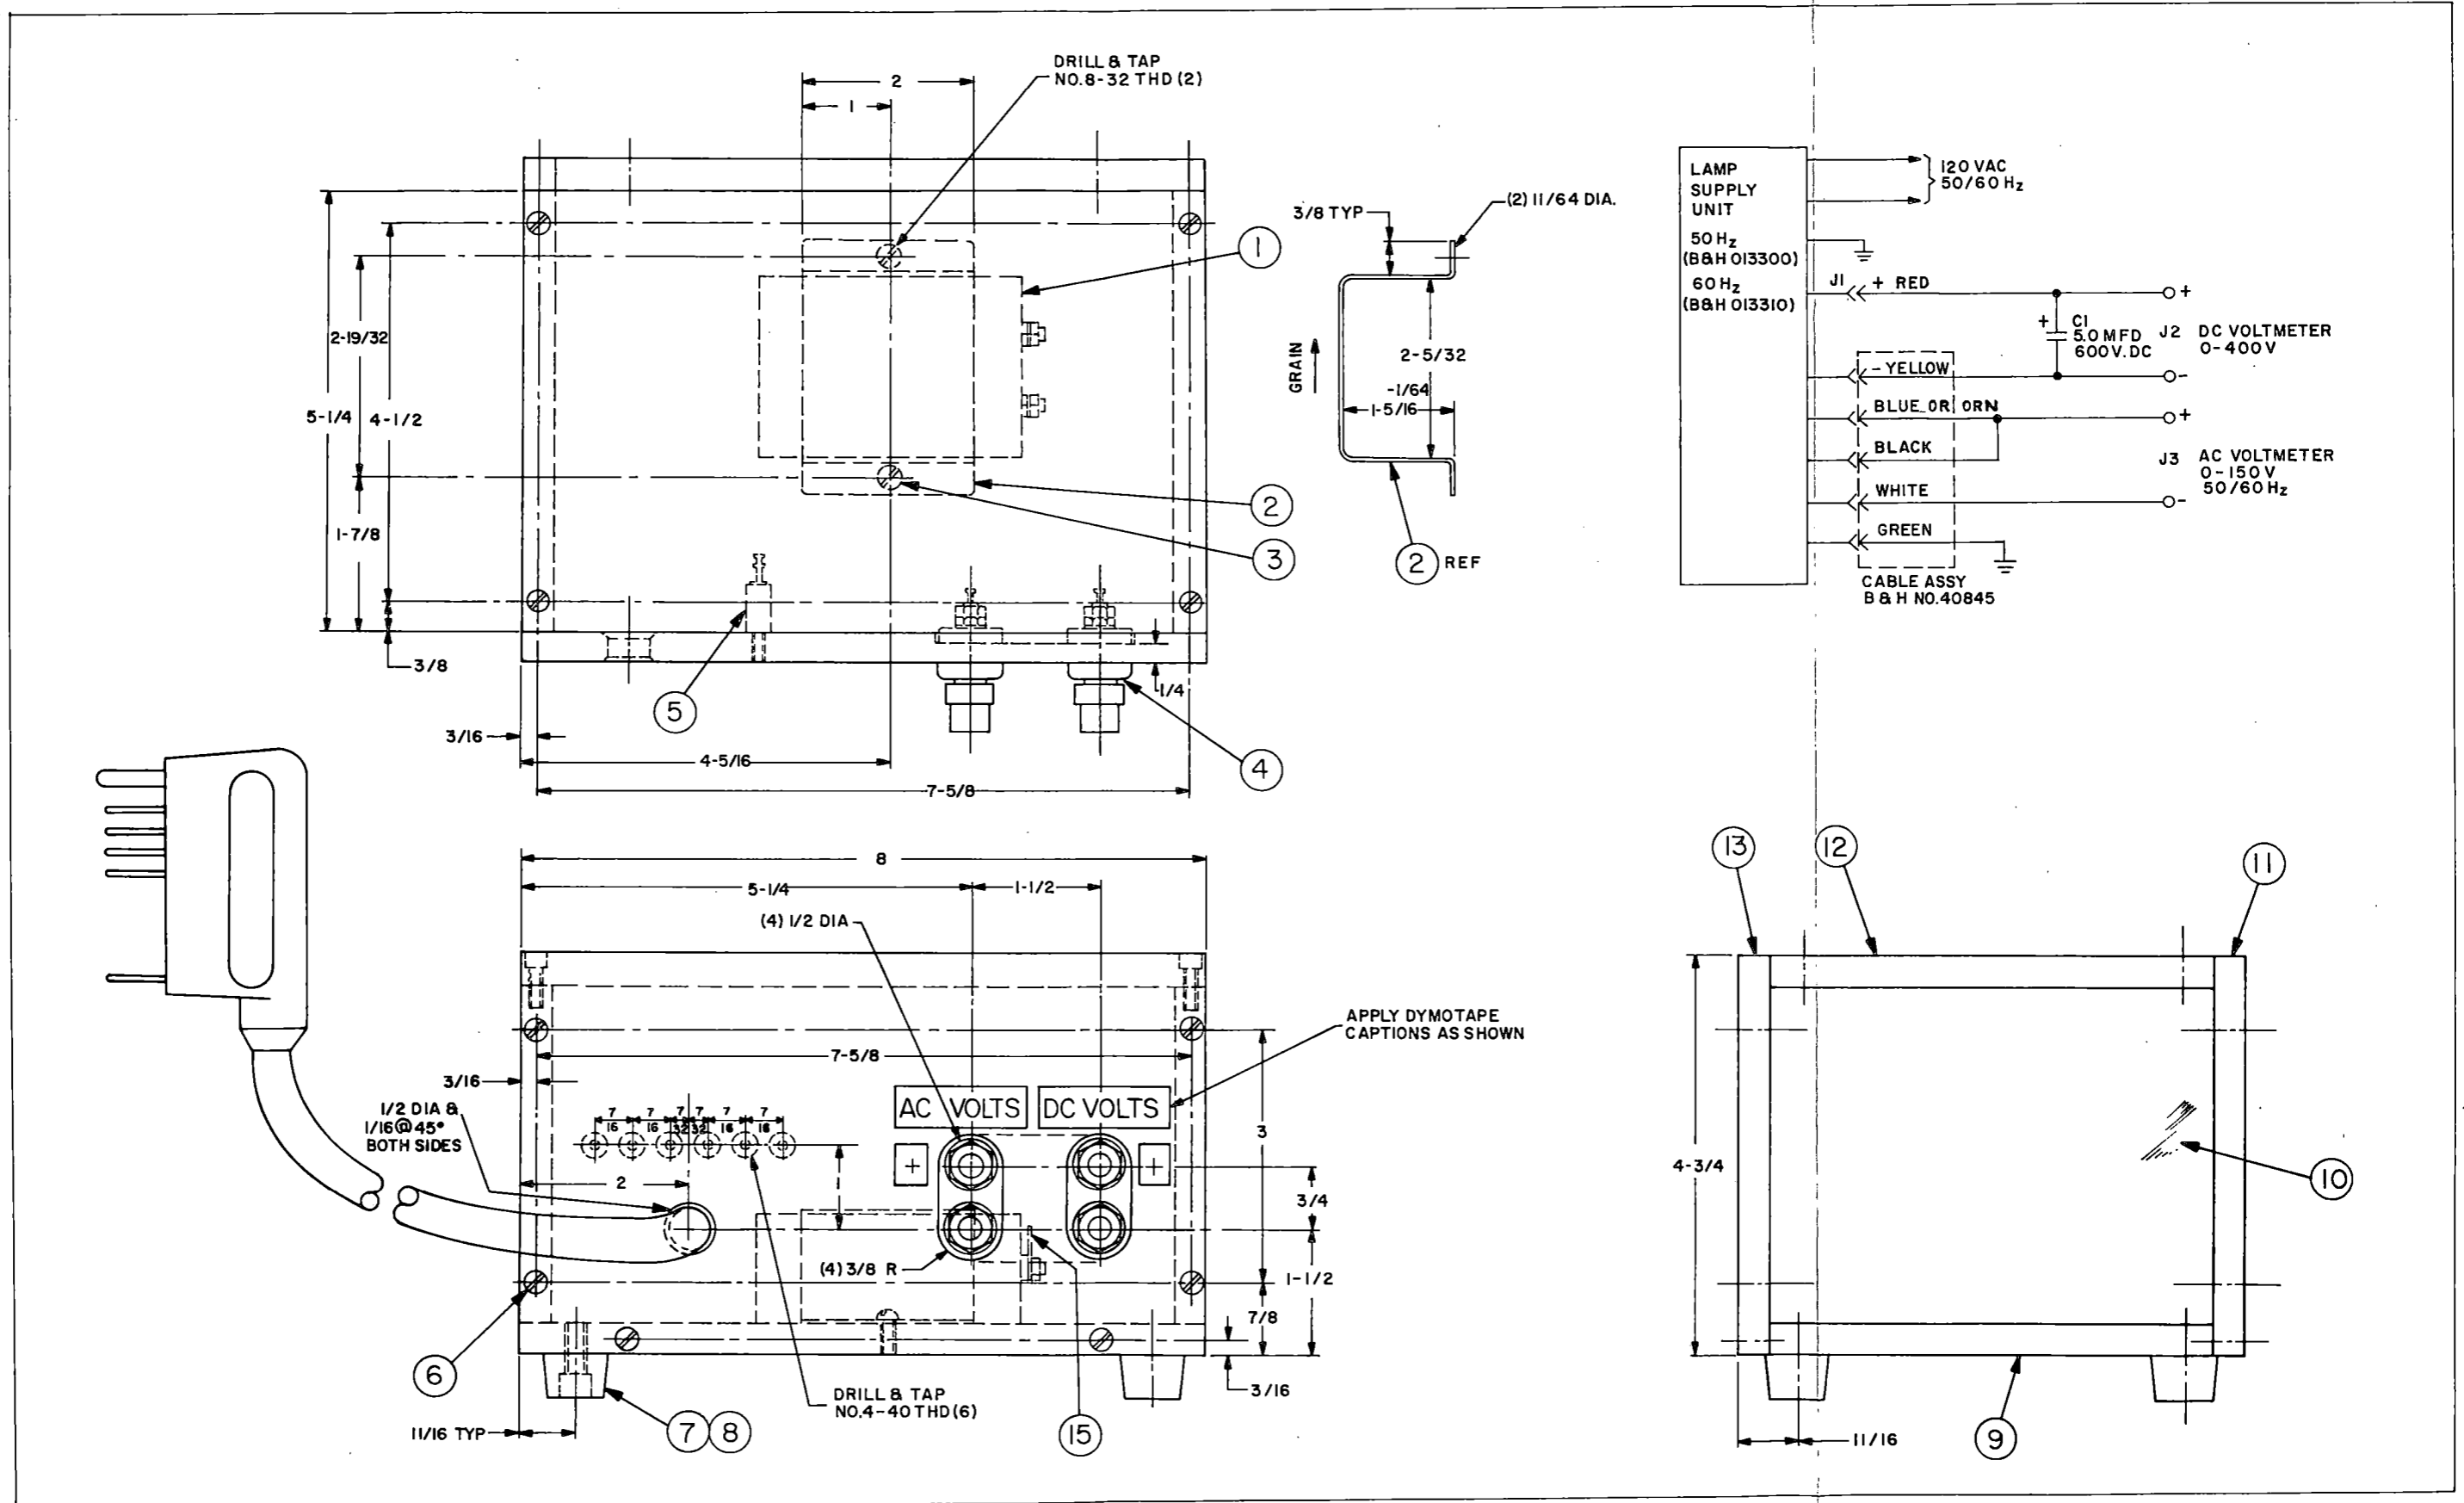

Figure 1. Open Circuit Starting Voltage Tester
(1) Connect the six-prong plug of the power cable from the Open Circuit Starting Voltage Tester (Figure 1) to the Lamp Supply Unit.
(2) Switch the variac ON and adjust for 105 volts on the A.C. meter. The D.C. output voltage should be greater than 290 volts D.C. on the D.C. meter.
(3) Adjust the variac for 120 volts on the A.C. meter. The D.C. output voltage should be less than 350 volts on the D.C. meter.
OPEN CIRCUIT STARTING VOLTAGE TESTER (FIGURE 1)